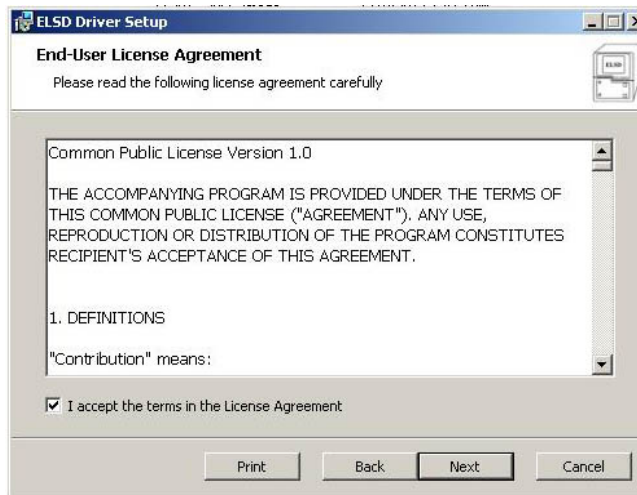

Figure 2: End-User License Agreement
3. Check the **"I accept the terms in the License Agreement"** check box and click the **Next** button. Click on the **Cancel** button if the terms of the license agreement aren't acceptable (Figure 2).